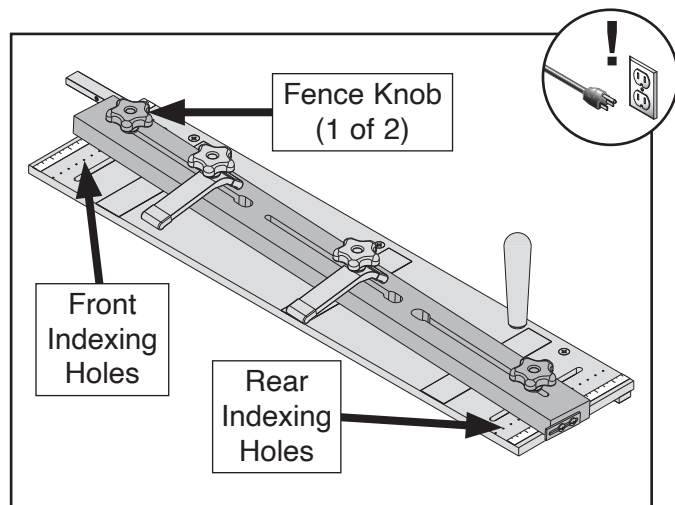

Figure 16. Indexing hole taper adjustment components.
2. Loosen (2) fence knobs (see **Figure 16**).
3. Align front and rear ends of fence with desired indexing holes (see **Figure 16**), then tighten fence knobs to secure setting.